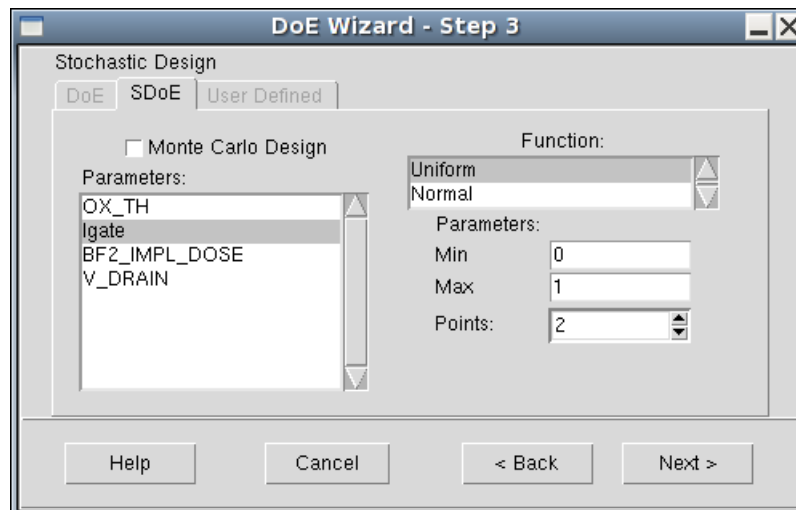

Figure 48 DoE Wizard - Step 3 for stochastic design
Step 3 for stochastic design (see Figure 48) allows you to define the characteristics of stochastic parameters. This means that you must associate each parameter with a probabilistic distribution and a number of collocation points (parameter settings).